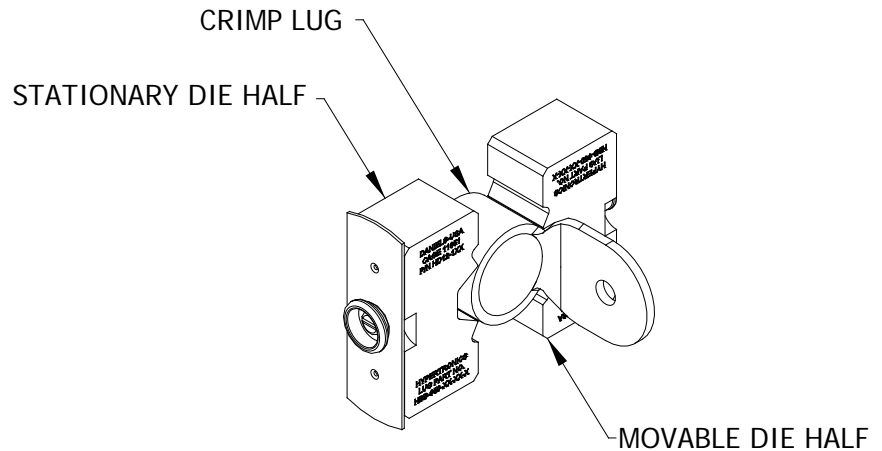

Figure 3
2. Place a lug in the movable die half making sure the lug is positioned as shown in Figure 3.